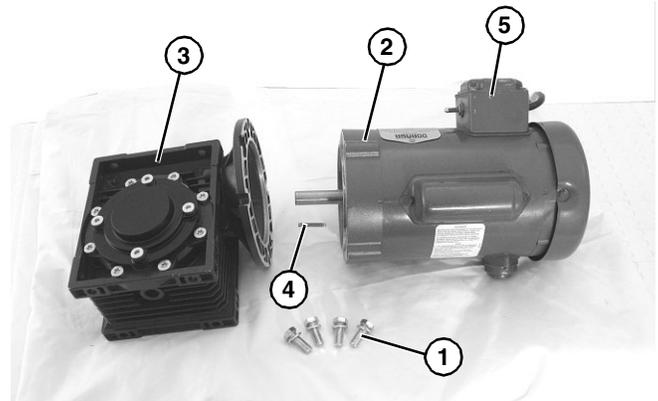

**Figure 28**
3. For DC variable speed motor, unplug motor cord at disconnect (**Figure 28, item 1**).